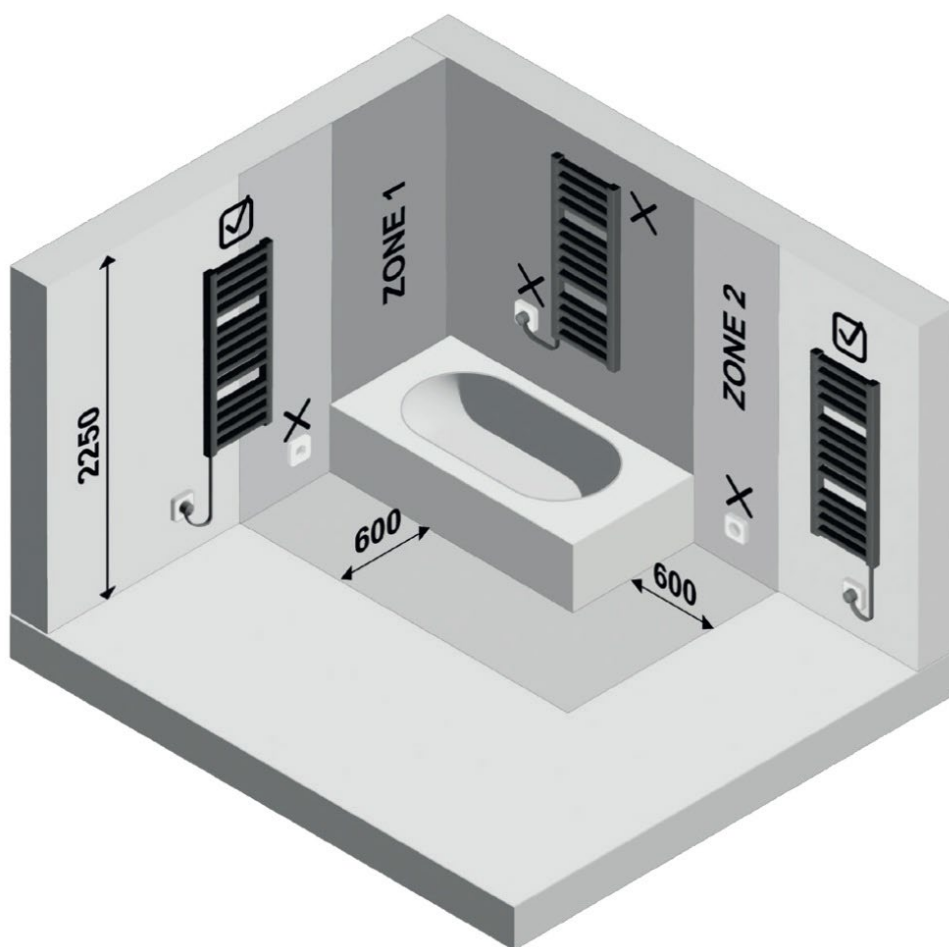

Figure 3
- Radiators equipped with a RIO / RIO WIFI regulator must be installed at minimum in bathroom zone 2, following IP rating requirements and current electrical standards (For zone definitions as per IEC 60364-7-701 – see Figure 3). If in doubt regarding the correct installation zone, consult the relevant public authority.